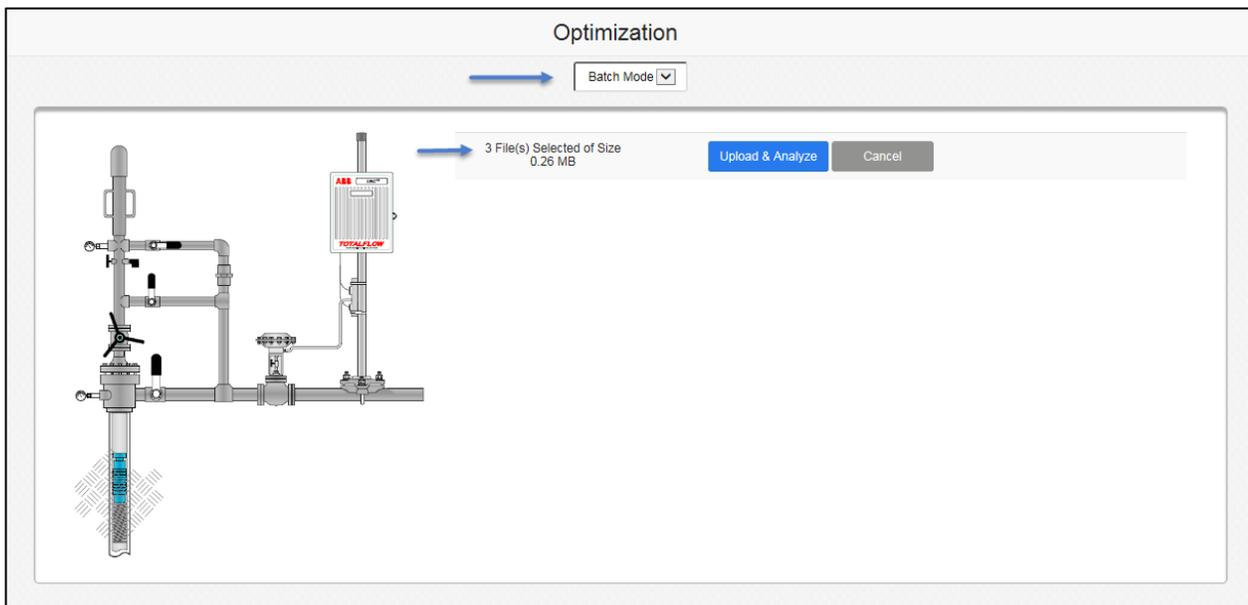

Figure 54: Starting optimization in batch mode
- 3) On the optimization mode dropdown menu select **Batch Mode** (Figure 54).